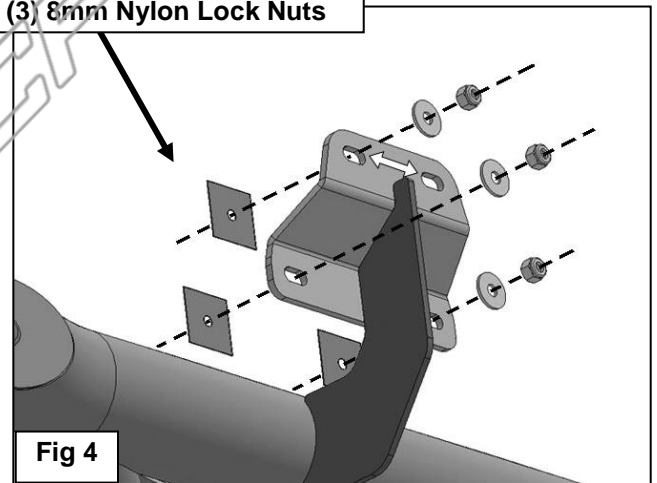

Fig 4
3. Select the passenger/right HD Side Step Assembly. With assistance, attach the HD Side Step to the (6) factory studs with (6) 8mm Flat Washers and (6) 8mm Nylon Lock Nuts, **(Figures 4 & 5)**. Snug but do not fully tighten the hardware.